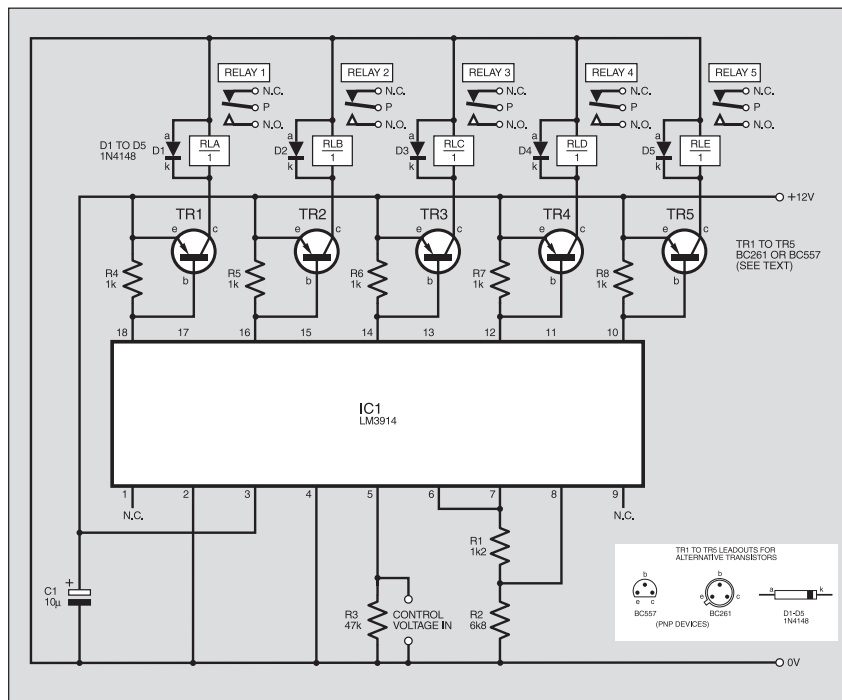
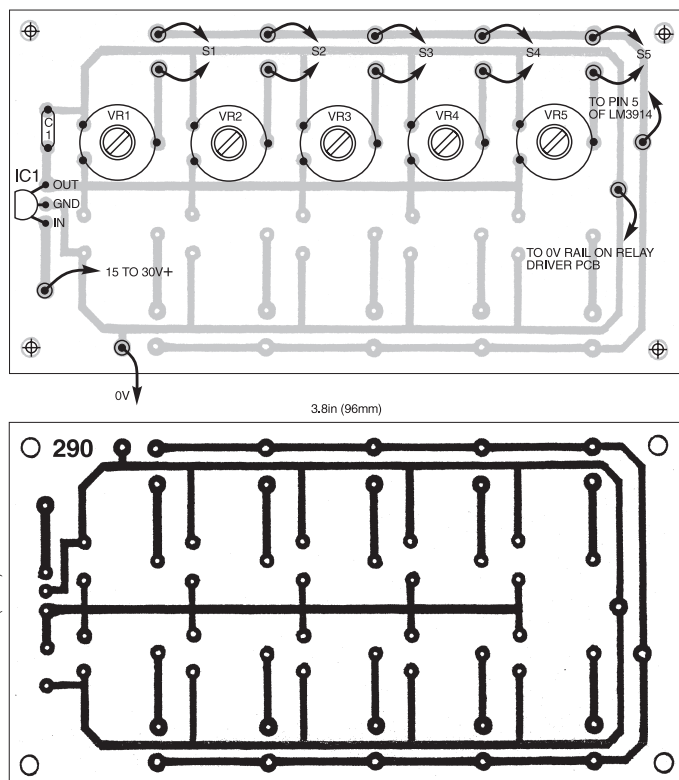
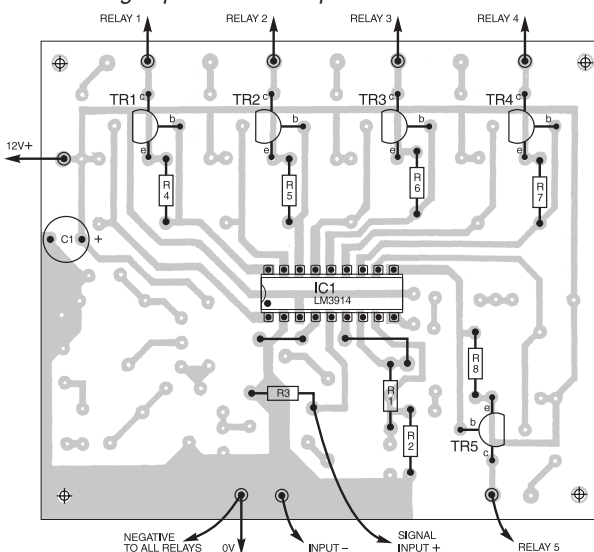

Fig.7. Circuit diagram for using the LM3914 as a relay driver. Remote control of up to ten relays, via two wires, is possible.
Fig.9. Relay Control p.c.b. component layout and foil master.
Fig.10f. Component layout for Remote Relay Driver. See Fig.7 for circuit diagram. Up to ten relays can be controlled.
*Remote Relay Driver circuit board. See Fig.7 for circuit diagram and Fig.10f for board details. It is possible to control up to 10 relays, using the control board of Fig.9.*
The circuit diagram for a Relay Driver set-up using the LM3914 is given in Fig.7. When one of the comparators draws current, the voltage developed across base/emitter resistor, R4 to R8, makes the relevant transistor collector (c) conduct and the associated relay coil is energised. Diodes D1 to D5 shunt the high voltage developed across the relay coil when the transistor turns off.
The full-size foil and component sides of a p.c.b. for the Relay Driver Control Board are shown in Fig.9. Although five circuits are shown, provision is made on both p.c.b.s for all ten to be installed should this be required.
The components for the various circuits are best assembled on a small printed circuit board (p.c.b.). The full-size, copper foil side of a multi-purpose board, which can accommodate all of the circuits discussed, is shown in Fig.11. The various topside component layouts are illustrated in Fig.10a to Fig.10f, also see the photographs. The board (one only) is part of a set which is available from the EPE PCB Service, codes 289/290/291.